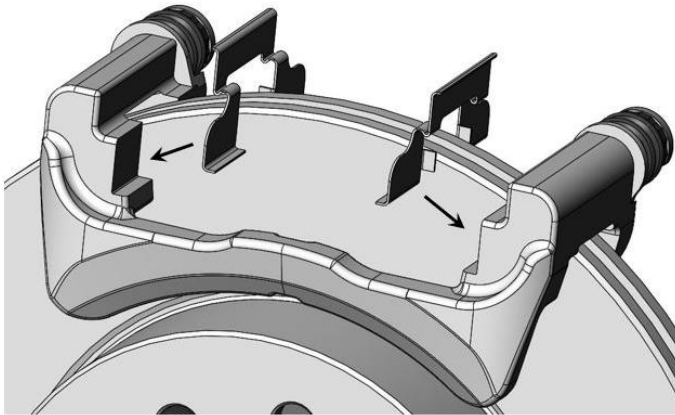
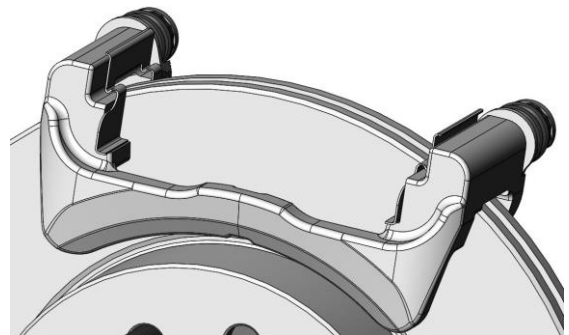

Figure 7a – Abutment Clips Installation
Figure 7b – Abutment Clips Installed
- Place the Stainless Steel Abutment Clips into the Caliper Anchor Bracket at this time. Refer to Figure 7a and Figure 7b Below for installation reference.